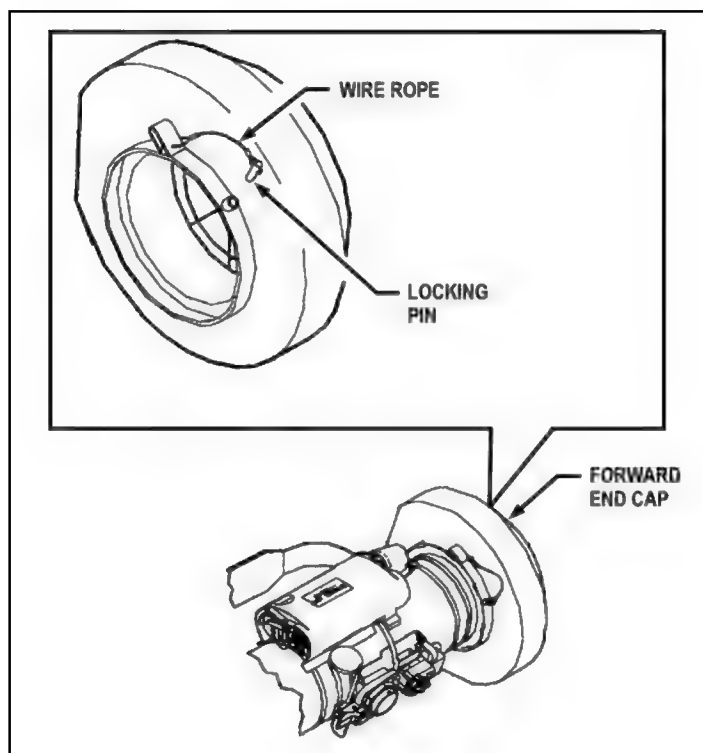

Figure 2-35. Forward end cap locking pin.
(3) Align the forward end cap latch handle with the BCU pylon.
(4) Slide the forward end cap onto the round and turn the latch clockwise to engage the locks.
(5) Reinstall the locking pin in the hole in the forward end cap (Figure 2-35).